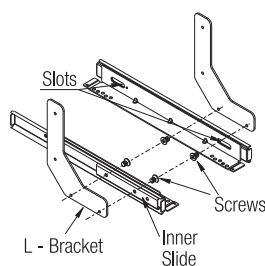

Fig. 3
3. Screw the Inner Slide of the Ball Cage Slide with the L - Bracket through the slots in the Ball Cage Slides as shown in Fig. 3.